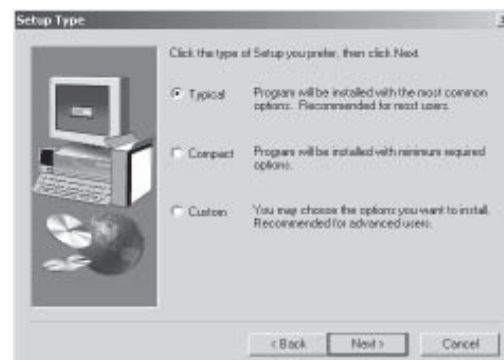

Fig. 2-5 Installation Interface 5
Step 4. Setup Installation/Deletion Folders. (This item will appear in the function menu of **Control Panel** **Add/Delete**. We select **SCADA for FAB** for example). Completing the setup, click **Next** to continue in Fig. 2-5.